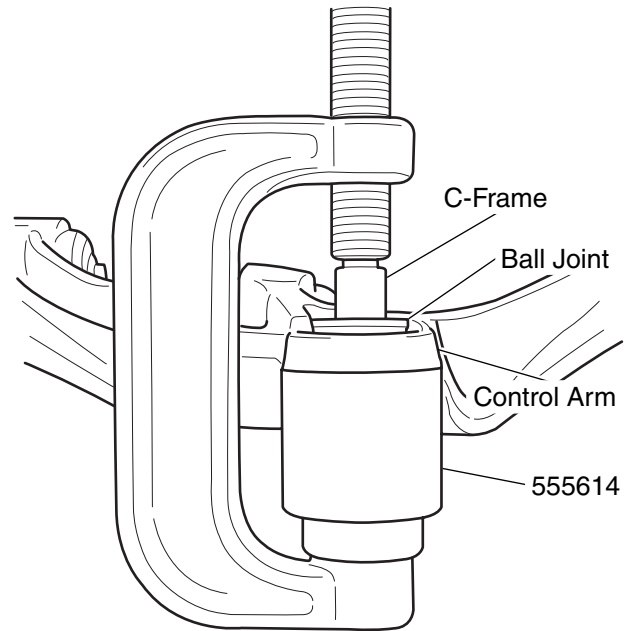

Figure 1. Ball Joint Removal
2. Position the C-Frame as shown in Figure 1.